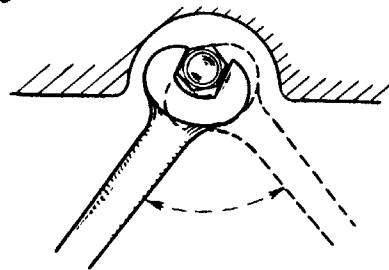

FIG. 9 TURNING WRENCH TO FIT A NUT
3. If the work is in a tight place, (Figure 9) turn the wrench over after each turn to loosen or tighten the nut or bolt.